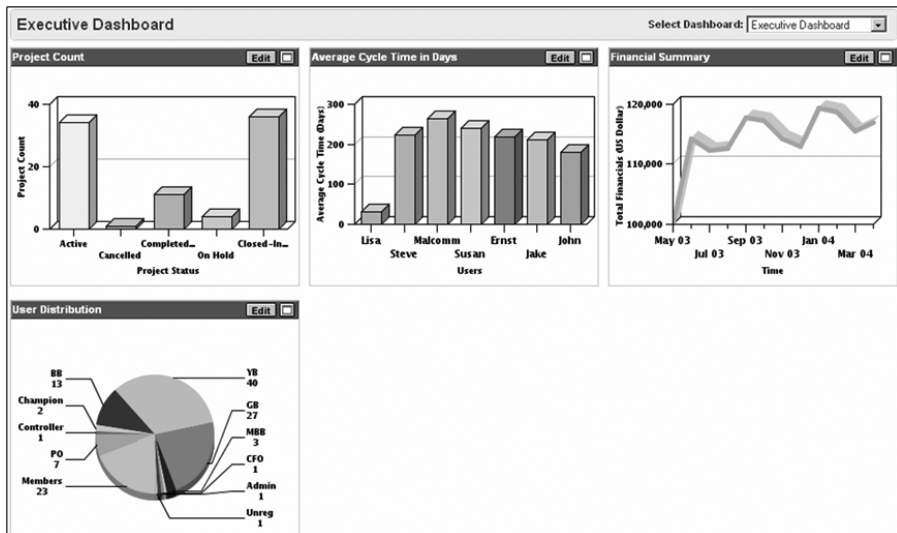

Figure 12-3:
- ✔ **Integrated tools:** The enterprise integrated tools used for project planning and tracking also include a suite of reporting tools. If you've used these tools on the planning and tracking side of your management effort, they are efficient and effective as reporting tools. See Figure 12-3 for an example.